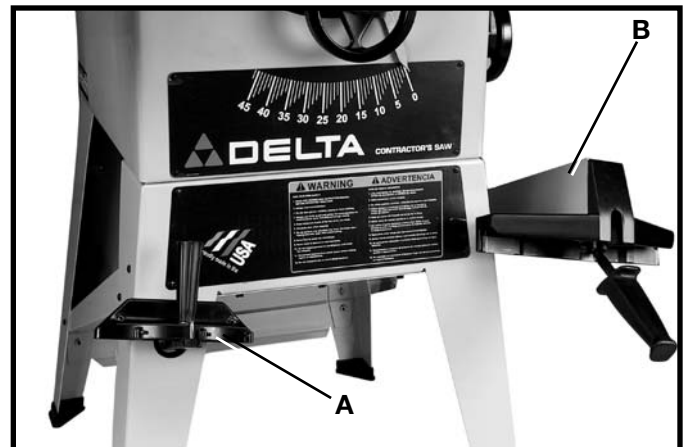

Fig. 55
1. When not in use, the miter gage (A) Fig. 55, can be stored through the hole located at the front side of the stand as shown.
2. The rip fence (B) Fig. 55, can be stored out-of-the-way on the stamped ledges on the right side of the saw stand.